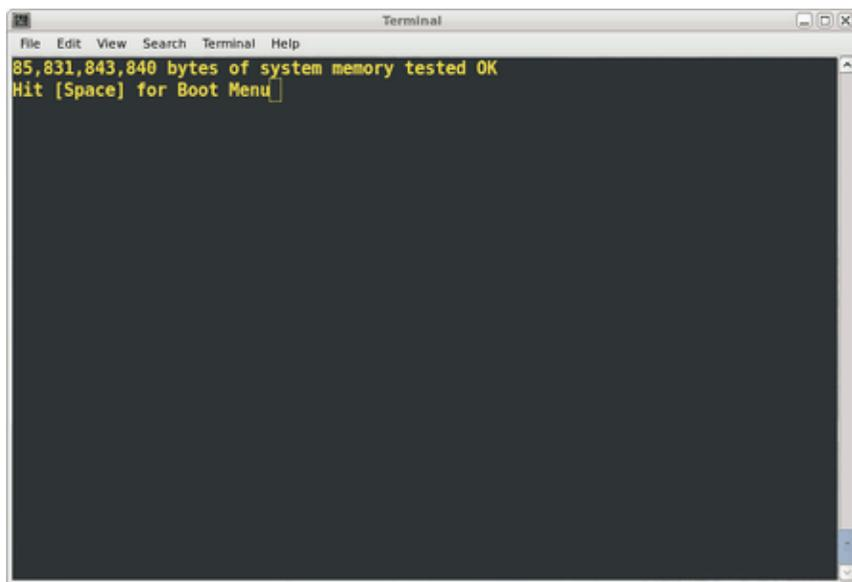

Figure 4-1 Console Prompt for Boot Menu Screen
2. When prompted on the console, hit the space bar for the **Boot Menu**, as shown in Figure 4-1 on page 52.